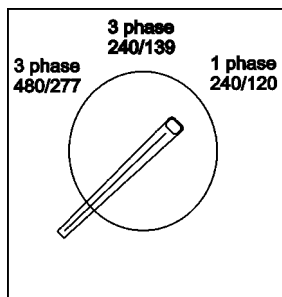

Figure 42. Terminal Switch
5. Set the terminal switch to desired phase for load being used (Figure 42).